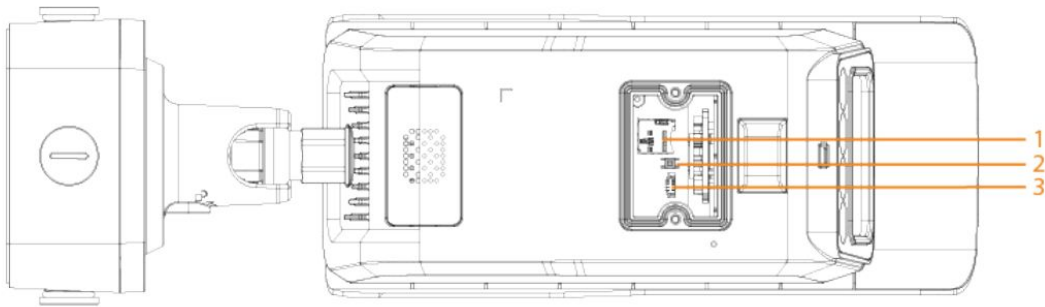

Figure 2-3
Step 2 Slightly press the RESET button for 15-30 seconds to complete the reset function. (#2 on Figure 2-3). The camera will reboot when the reset process is complete.
Step 3 (If installing SD Card) Adjust the Micro SD Card to the proper direction shown in as #1 on Figure 2-3. Close the access panel, tighten down the locking screw and reinstall camera.